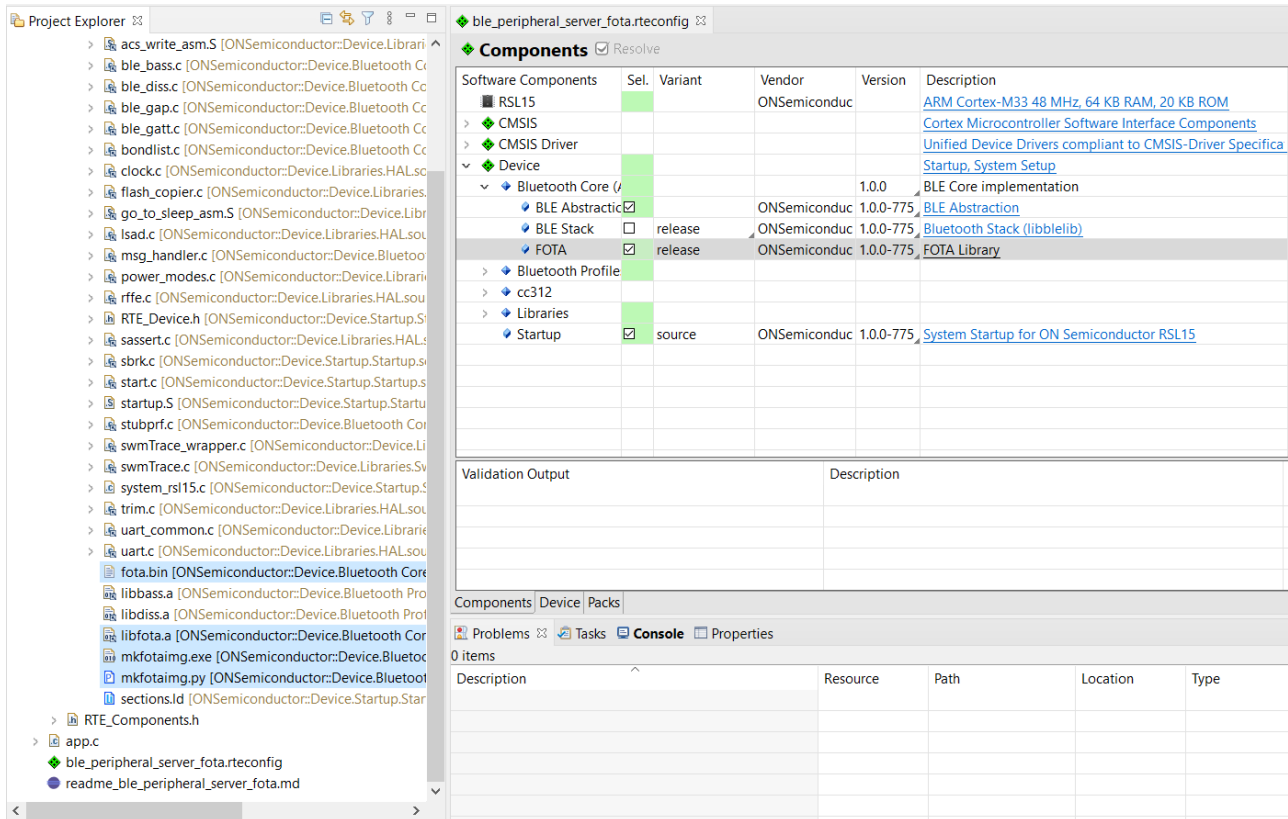

Figure 6. Files in FOTA Sample Project
3. The C/C++ perspective opens and displays your newly copied project. In the **Project Explorer** panel, you can expand your project folder and explore the files inside your project, as seen in the figure "Files in FOTA Sample Project" (Figure 6).
Project" (Figure 6). On the right side, the *ble_peripheral_server_fota.rteconfig* file displays the selected software components, including the new component named **FOTA**. If you expand **RTE > Device > <device>**, you can find the FOTA library (*libfota.a*), the FOTA Bluetooth Low Energy Stack binary file (*fota.bin*), and *mkfotaimg.exe*. These files are automatically added to your sample project once the FOTA component is selected.